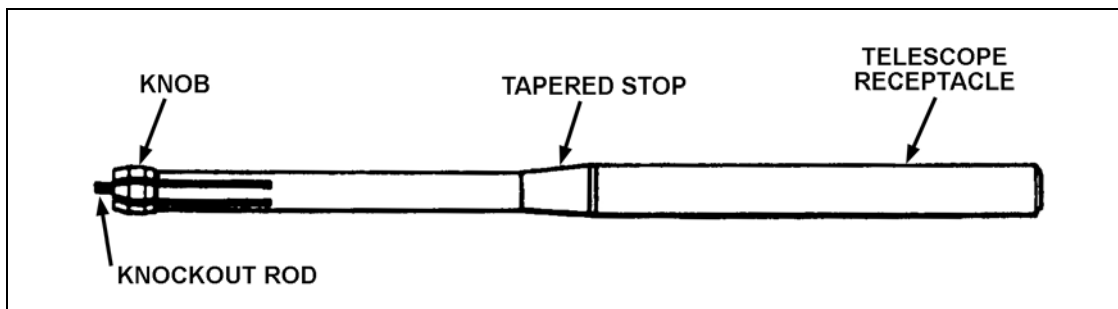

Figure B-7.
(1) The newer adapter (PN 12524144, Figure B-7) offers improved accuracy over the older model. On the newer one, both the plated knob and plated, tapered stop reduce wear. Although the knob's diameter exceeds that of the bore, slots in the knob allow it to compress (in diameter) to fit into the gun barrel.
(2) The telescope fits into the telescope receptacle on the adapter. When inserting the telescope, hold it at the base without touching the glass lens. Insert the telescope firmly by using a slight twisting motion. If the telescope is stuck in the adapter, gently hit the telescope knockout rod. Hard hits on the rod could damage the telescope shaft.